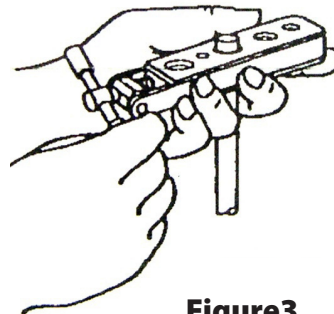

Figure3
7. Firmly tighten the die clamp screw against the end segment. See (Figure3).